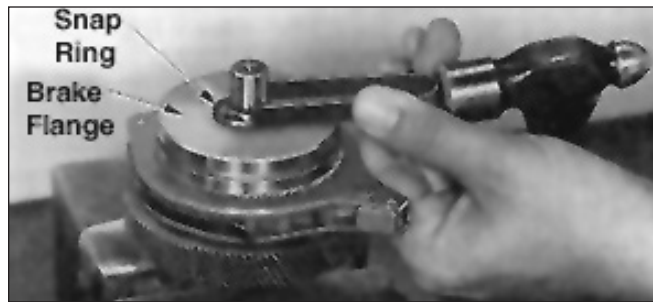

Figure 5-6. Remove Snap Ring From Load Brake Shaft
1. Place load brake assembly, flange up, in a vise equipped with brass or copper jaw plates to protect pinion gear teeth. Remove snap ring from end of load brake shaft (Figure 5-6).